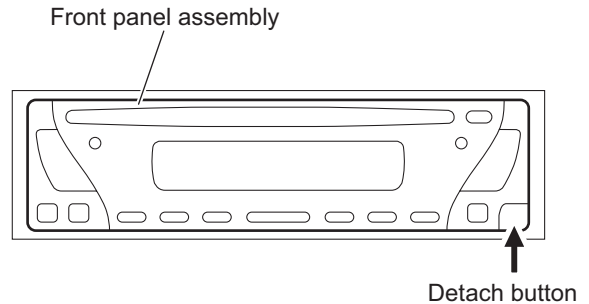

Fig.1
3.1.1 Removing the front panel assembly (See Fig.1)
3.2.1 Removing the top cover (See Figs.1 and 2)